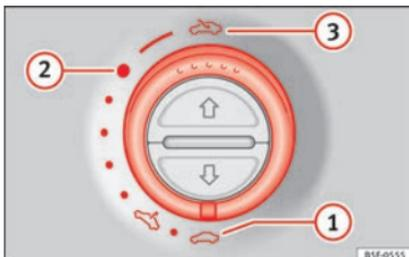

Fig. 13 On the interior roof lining: use the rotary button for opening and closing
- Opening: Turn the switch to position » Fig. 13 (3).
- Convenience position: Turn the switch to position » Fig. 13 (2).
- Closing: Turn the switch to position » Fig. 13 (1).